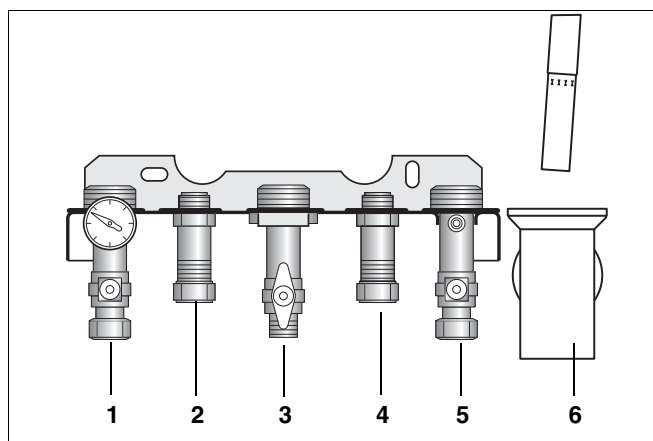

fig. 7 Pipe connections
- Connect pipes as shown in fig. 7. Ensure that all pipework is routed so as to minimise any strain on the boiler fittings.
Key to fig. 7:
- Connect pipes free of tension (fig. 7).